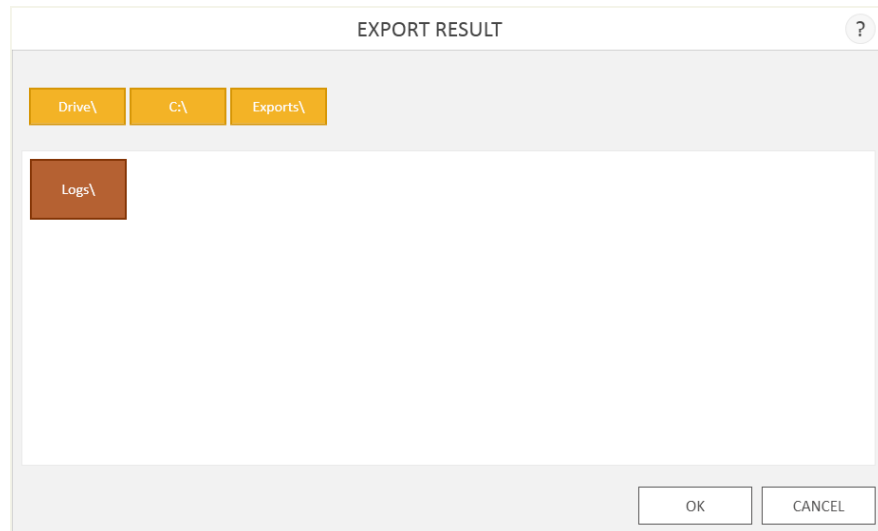

Figure 42. 'Export Result' screen. When the **Export** button is pressed the user is asked to navigate to the folder in which the report files should be saved.
- **Export** reports in tab-delimited text file format as well as Microsoft Excel® format and PDF format depending on administrator settings (Figure 42).